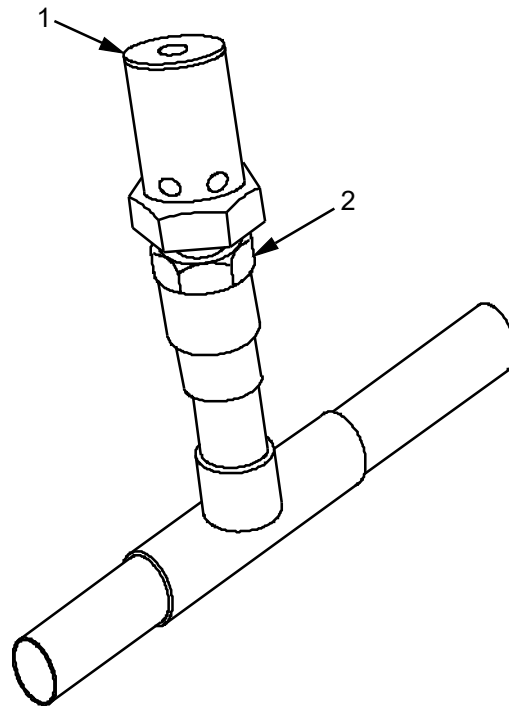

Figure 4. High Pressure Relief Valve Replace.
4. Remove any insulation from high pressure relief valve (Figure 4, Item 1) to allow removal.
5. Unscrew high pressure relief valve (Figure 4, Item 1) from plumbing joint (Figure 4, Item 2) and remove.
2. Install high pressure relief valve (Figure 4, Item 1) into threaded plumbing joint (Figure 4, Item 2) and tighten.
3. Install any insulation removed to install high pressure relief valve (Figure 4, Item 1).